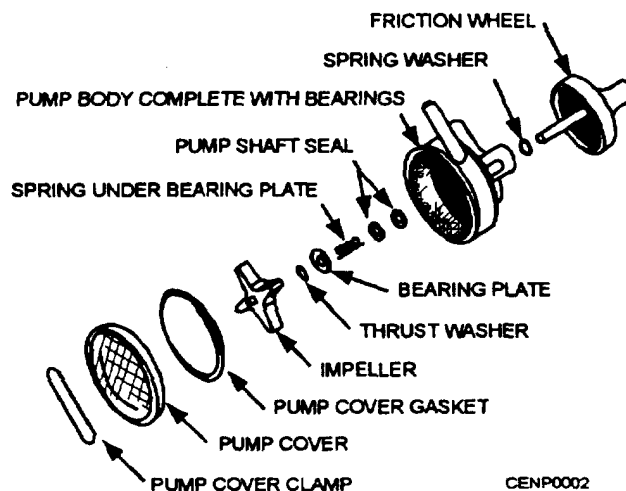

Figure 7-2.—Pump assembly.
**Pump.**—The pump removes water from the tub after each cycle. Normally, the pump is located next to the motor and is engaged by the electrical solenoid. The solenoid engages the friction wheel of the pump (fig. 7-2) with the friction wheel on the motor, causing the shaft to turn the impeller and extract water from the tub. The discharge hose of the pump must be mounted above the water level of the tub, or the water will drain without the operation of the pump. In some cases, the pump is belt-driven and the solenoid tightens the belt to make the pump operate.
One of the major causes of pump failure is foreign objects lodged in the pump impeller. To correct this situation, you remove the cover clamp (fig. 7-2) and the cover and remove the lodged item from the pump. Other causes are slippage between the friction wheels of the pump and motor and failure of the solenoid. Also, check for clogged hoses leading to and from the pump.